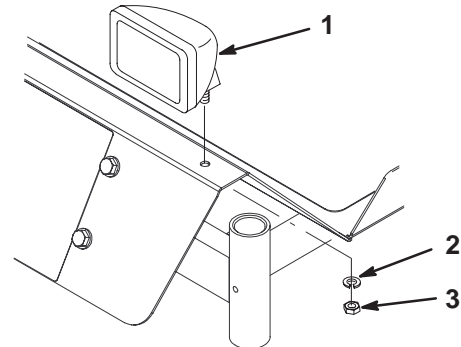

Figure 2
3. Align the other two lights with the holes at the front of the floor pan. Secure each light with a hex. head screw (5/16 x 1 in.), lock washer, and nut (Fig. 2).